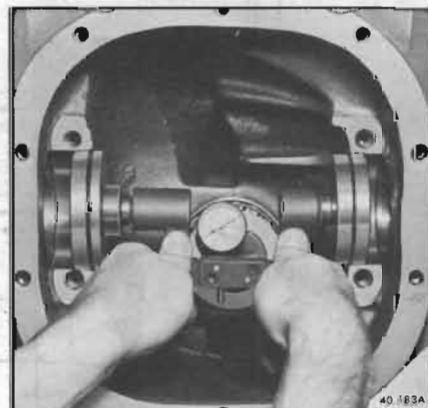

Figure 40-172—Checking Pinion Depth
8. Be certain that differential bearing support bores are free of dirt and burrs. Place indicator gage in carrier so that small diameter of Disc J-5647-41 and large diameter of Disc J-5647-42 rest in differential bearing pedestal support bores. Hold indicator gage as shown in Figure 40-172. Spring-loaded center of gage must be located in centering hole of gage plate, and ball-tipped contact button of dial indicator must be positioned to bear against gage plate top surface.